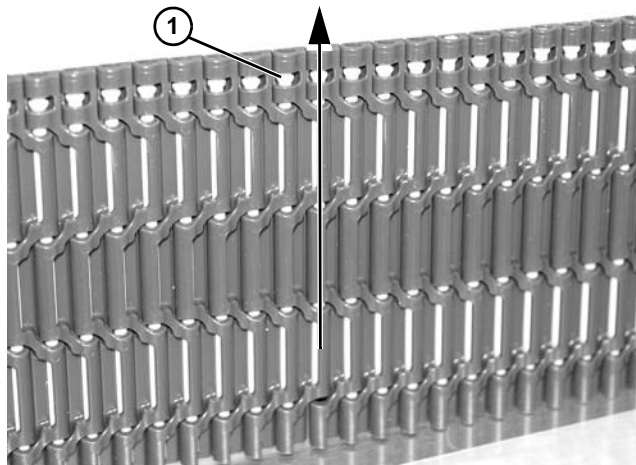

Figure 161
Note that head of pin (**Figure 161, item 1**) should be removed in direction shown.